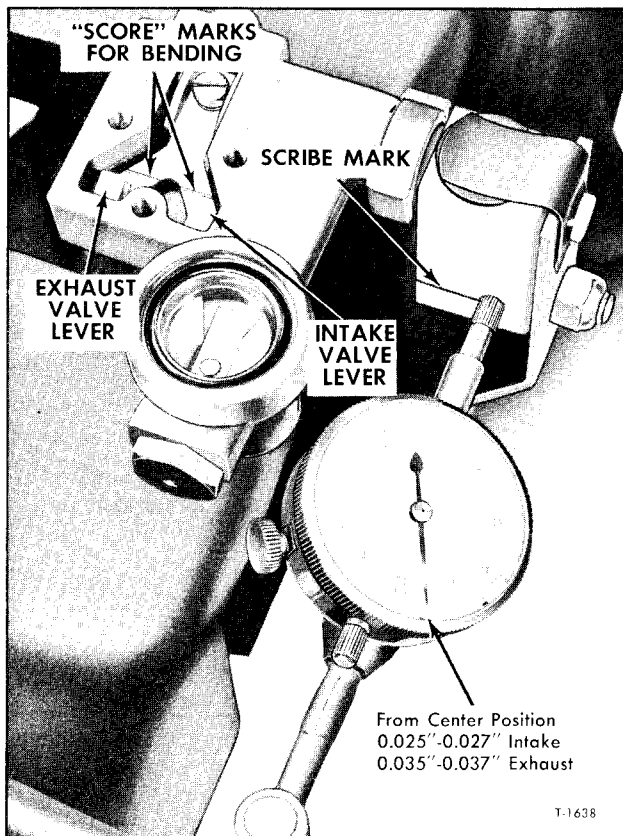

Figure 28—Adjusting Air Valve Lever Gap
4. Starting at true center position, slowly move lever to where air intake valve just begins to open. Listen for escaping air. Note reading on dial at this point. Reading should be 0.025" to 0.027" from lever center position. If necessary, bend intake valve lever to correct setting (fig. 28).
necessary, bend exhaust valve lever to correct setting (fig. 28).
b. If necessary, bend intake valve lever to correct setting (fig. 28).